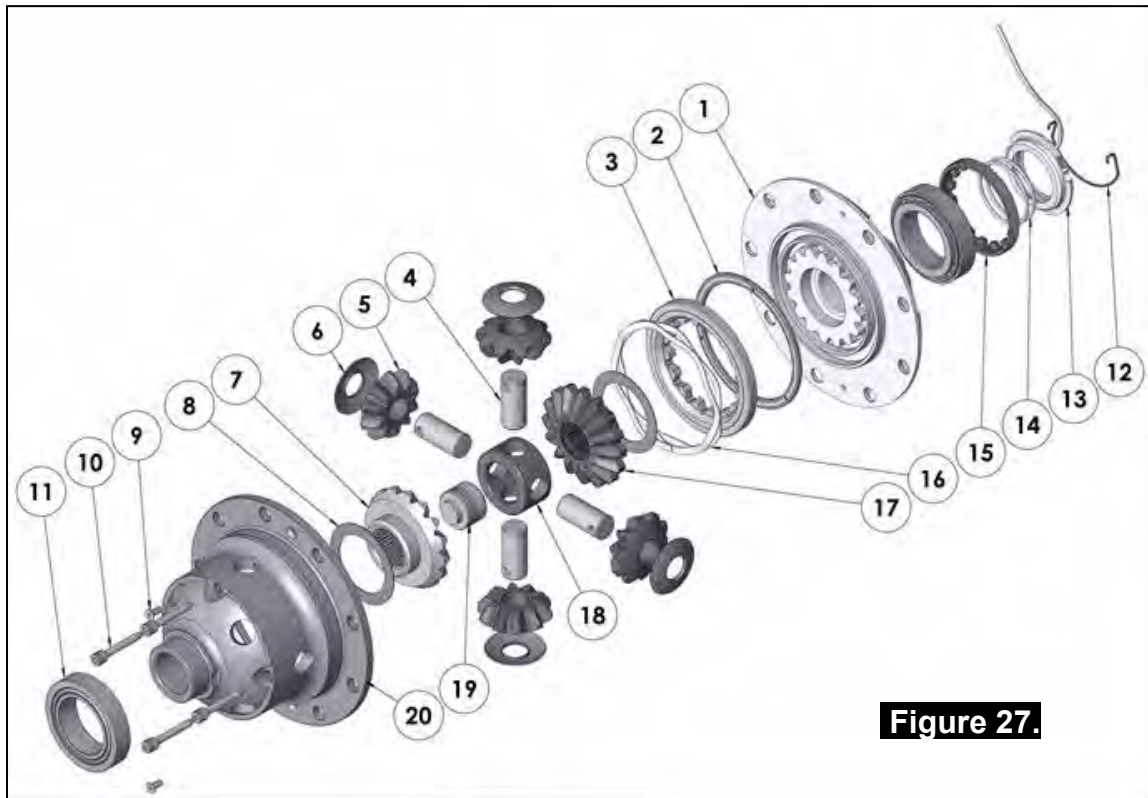

Figure 27.
7.3 Itemized Parts List (See exploded diagram Figure 27.)